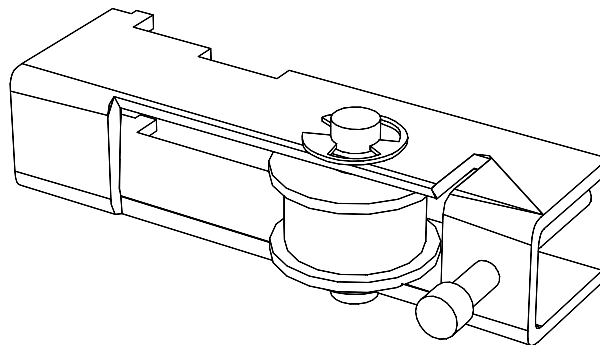

Fig. 5 - Belt tensioner assembly
- 2) Remove the left side cover of the machine. There are two (2) black phillips screws holding the cover to the left end plate in front, and back.
- 3) To remove the pinch wheel assembly, the left end plate must be removed. To do this, start by loosening the "Y" axis belt. With a 9/64" hex wrench loosen the belt tensioner on the left side of the machine. *See fig. 5*